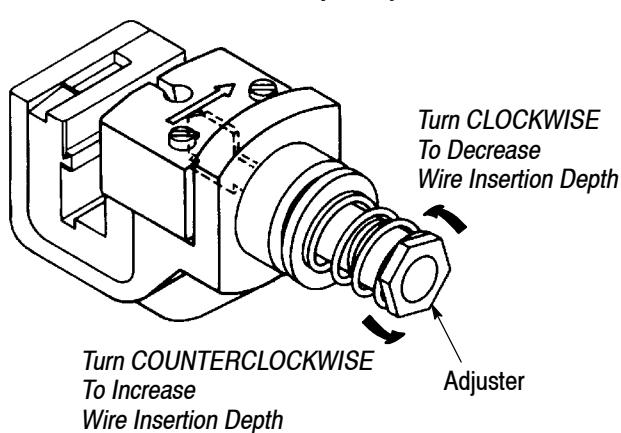

Figure 5
2. Turn the adjuster one-sixth of a revolution *clockwise* if the wire is too deep in the contact, and *counterclockwise* if the wire is not deep enough in the contact. Refer to Figure 5. This will decrease or increase the wire insertion depth by approximately 0.20 [.008].